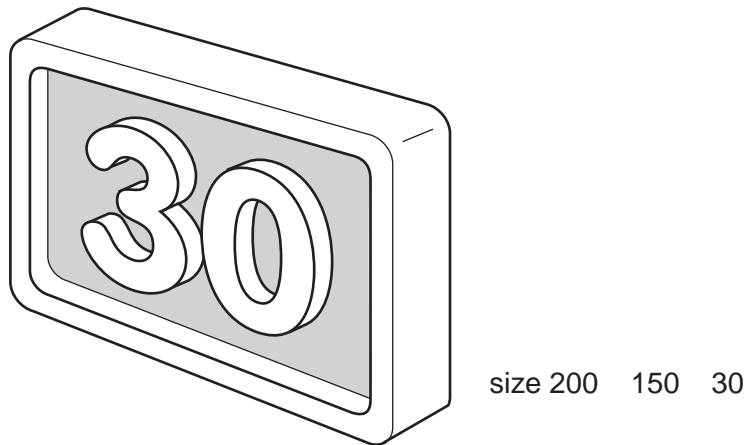

Fig. 5
- 7 Fig. 5 shows a house number made from cast metal. The number is to be fixed on the outside wall of a house.